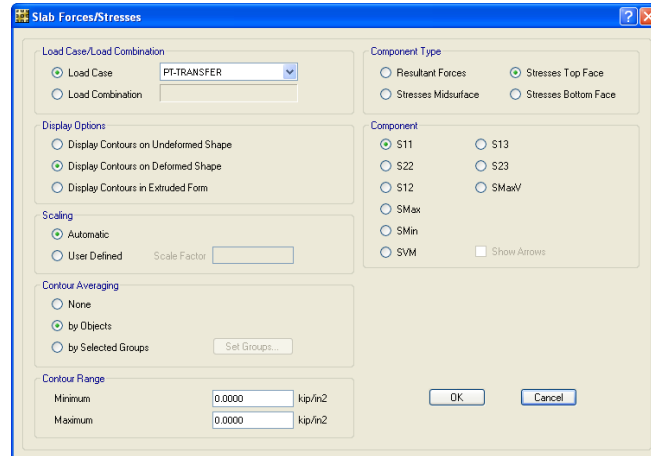

Figure 88 Slab Forces/Stresses form
- I. Click the **Display menu > Show Slab Forces/Stresses** command to bring up the Slab Forces/Stresses form shown in Figure 88.